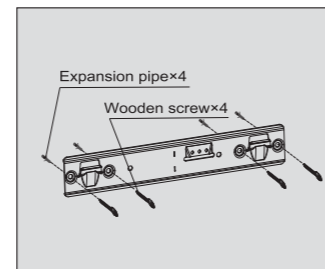
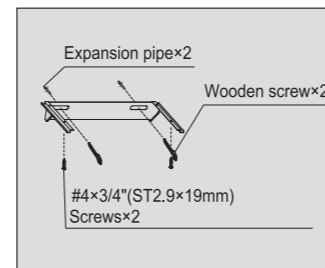

Figure 1
Figure 2
- Refer to installation diagram, set the right position on the wall to drill and then firmly imbed the expansion pipe. Insert $\#10 \times 2 \frac{9}{16}$ " (ST5 \times 65mm) wooden screws to tighten the fixed pothook and decorative cover pothook; then use two $\#4 \times \frac{3}{4}$ " (ST2.9 \times 19mm) Screws to fix the decorative cover on the suspended ceiling (see Fig 1 and Fig 2).